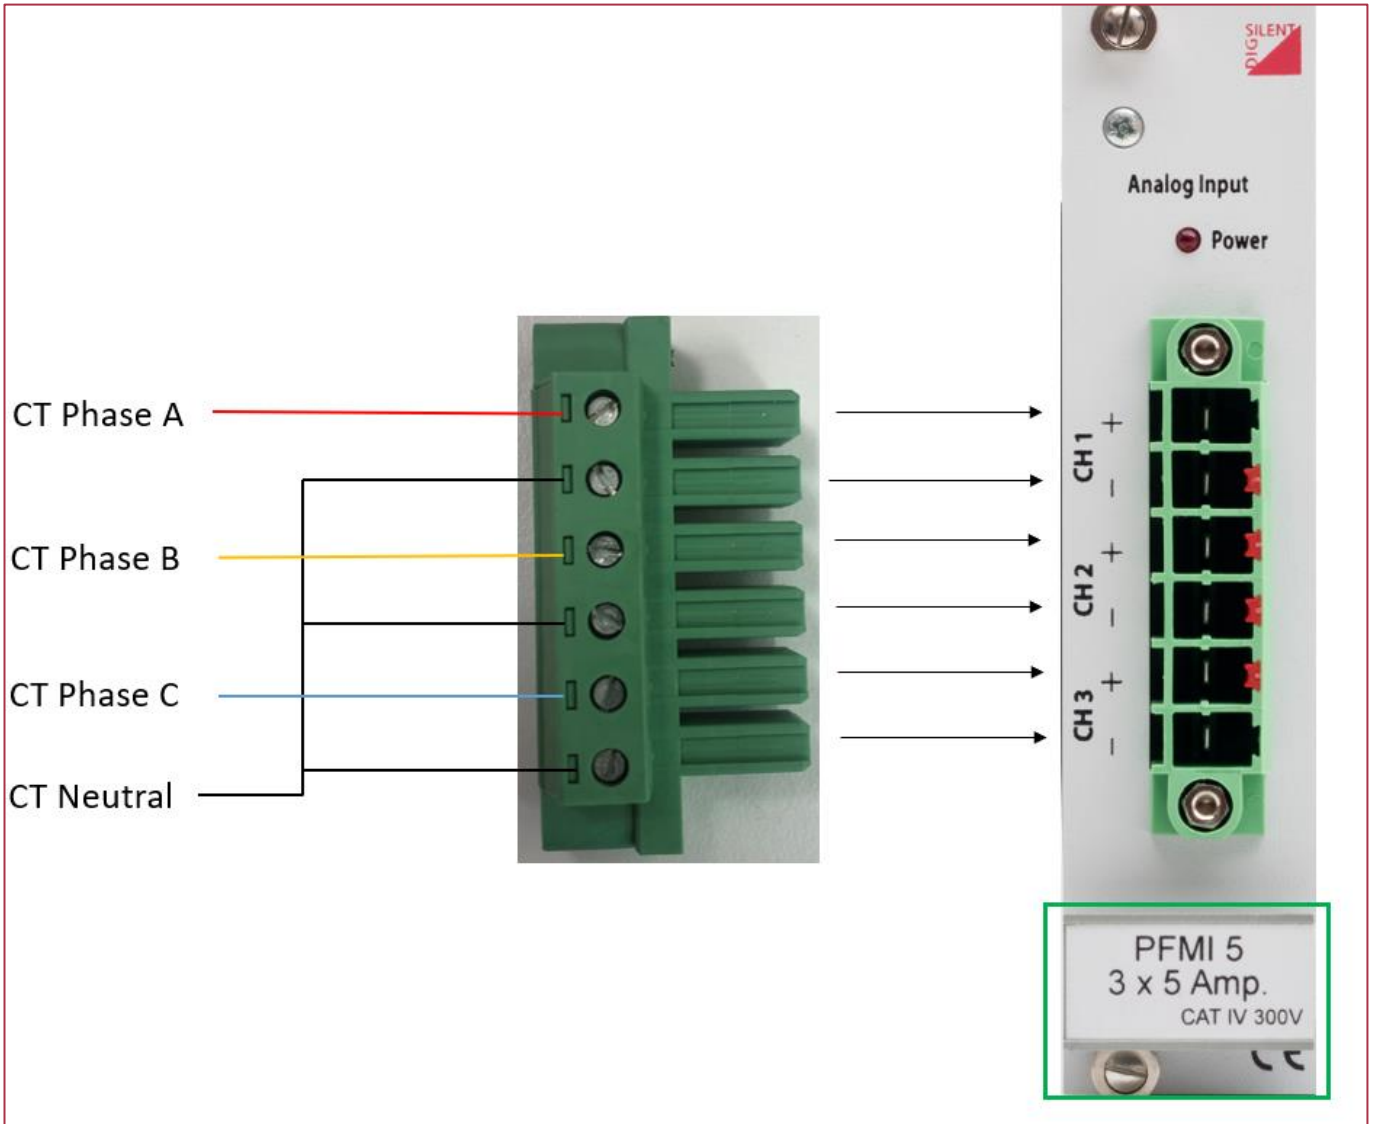

Figure 2.2. Connection diagram for current inputs (ID No. 2)
2.2 Current inputs – identification number (2)
The secondary side of the current transformer (CT) is connected to the current card via a Phoenix contact, as illustrated in Figure 2.2 below. The current card can be recognised by the label “Amp” (e.g., 3 x 5 Amp) or by its ID (e.g., PFMI) where 'I' denotes current.